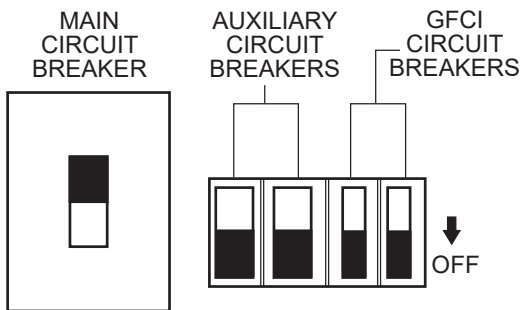

Figure 53. Main, Aux. and GFCI Circuit Breakers (OFF)
1. Place the **MAIN, GFCI and LOAD** circuit breakers as shown in Figure 53 to the **OFF** position.
3. Place the **MAIN, GFCI and LOAD** circuit breakers as shown in Figure 53 to the **OFF** position.